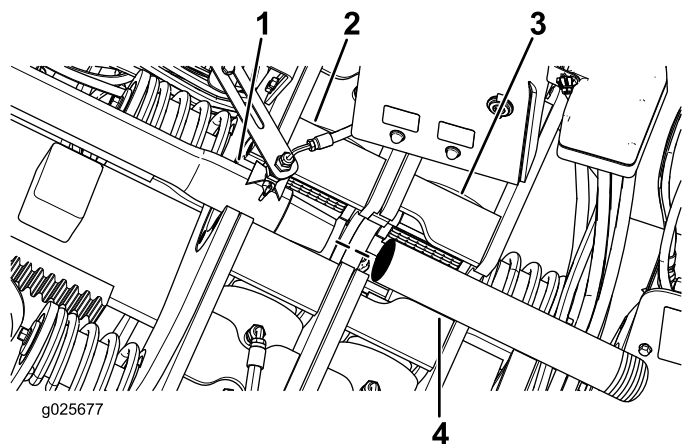

Figure 60
2. Place the lead bar through the lower wrench (stationary wrench) as shown in Figure 60.